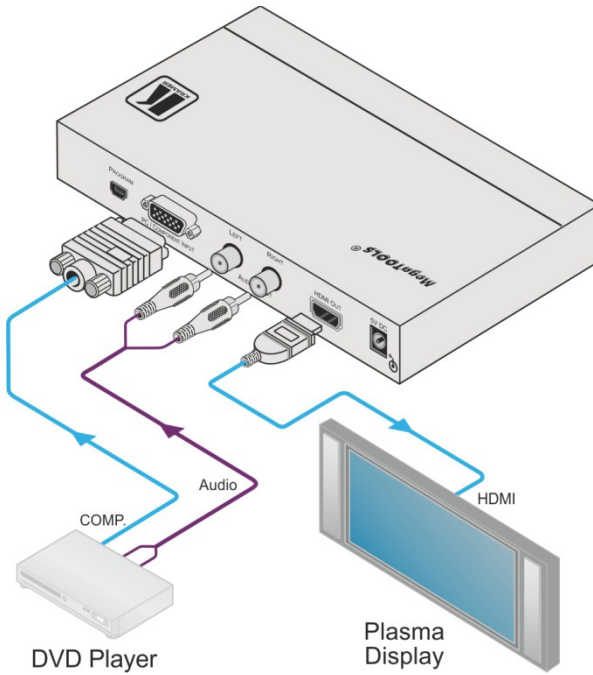

Figure 2: Connecting the VP-425 PC / Component to HDMI Scaler
To connect the **VP-425**, as illustrated in the example in Figure 2 do the following:
4. Connect the 5V DC power adapter to the power socket and connect the adapter to the mains electricity (not shown in Figure 2).